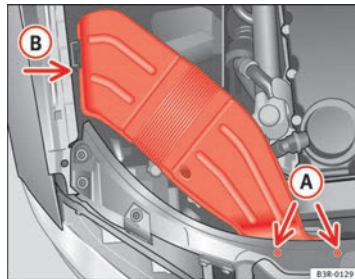

Fig. 202 Air duct on right side of vehicle
- Unscrew bolts **(A)** ⇒ page 268, fig. 202.